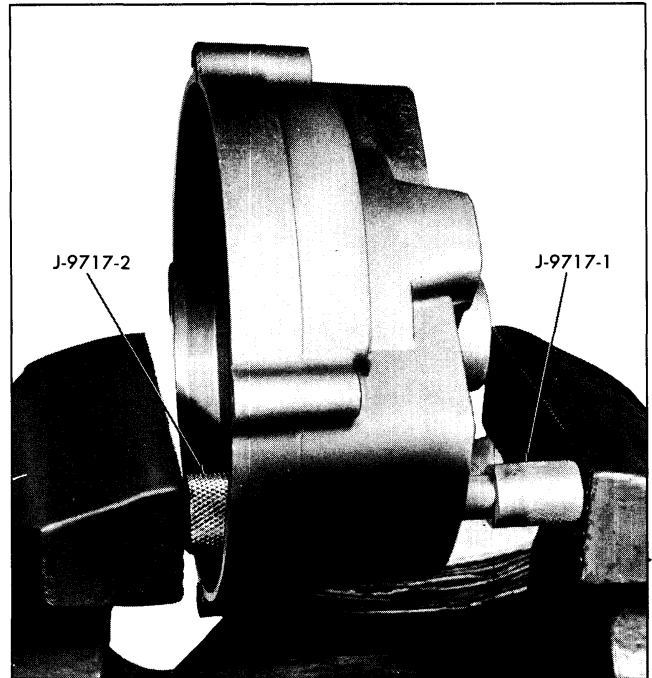

Fig. 11-21 Removing Diode
1. With stator removed, support slip ring end frame in vise or arbor press with J-9717-2 against casting and position remover J-9717-1 against diode as shown in Fig. 11-21.